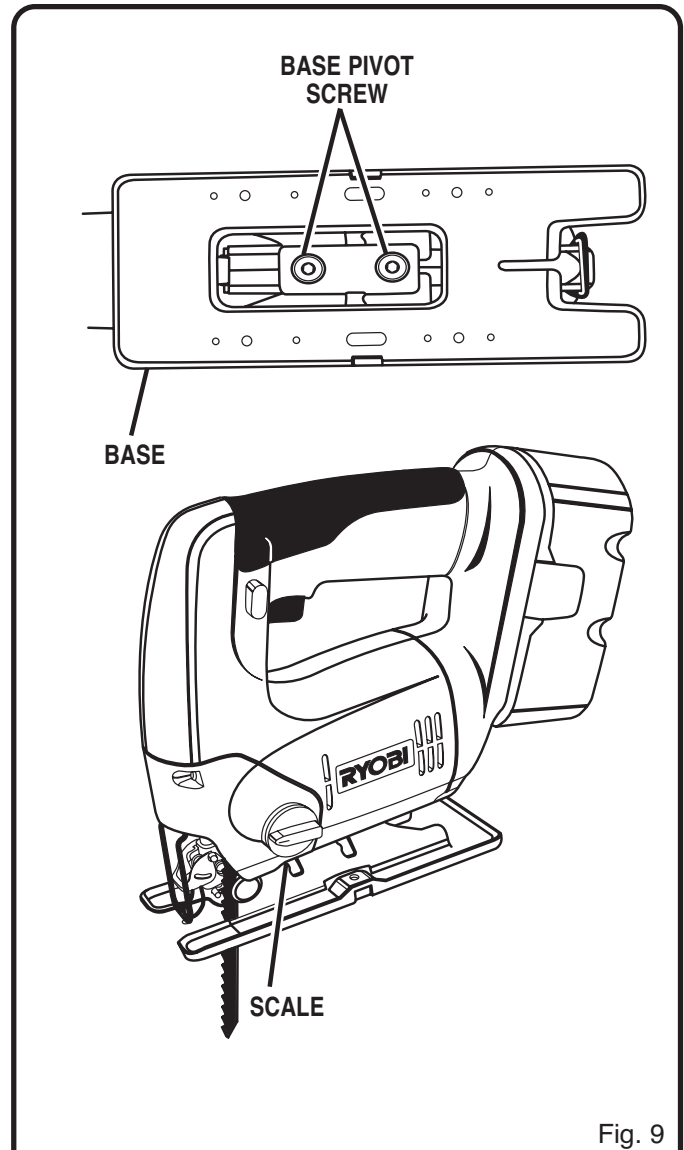

Fig. 9
See Figure 9.
- Using the 1/8 in. hex key provided, loosen base pivot screws and slide base forward. See Figure 9.